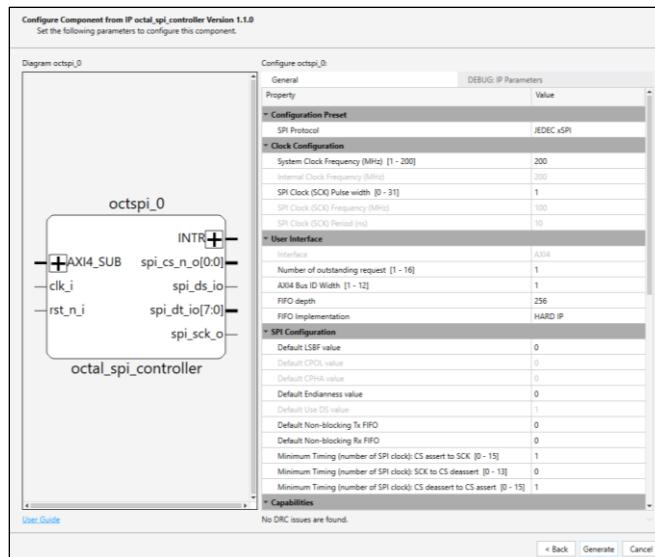
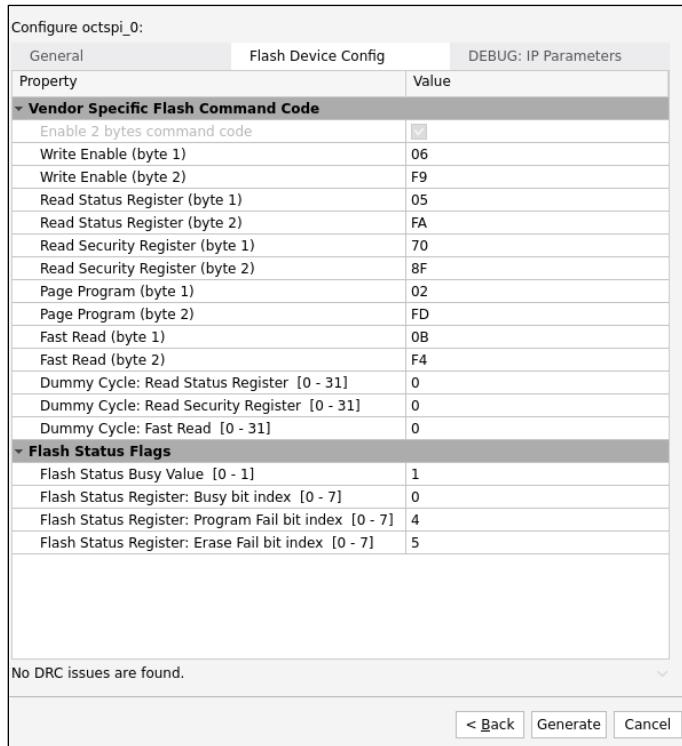

Figure 7.2. IP Configuration (View 1)
Figure 7.5. IP Configuration (View 4)
5. Customize the selected Octal SPI Controller IP using drop-down lists and check boxes. Figure 7.2 through Figure 7.5 show an example configuration of the Octal SPI Controller IP. For details on the configuration options, refer to the IP Parameter Description section.